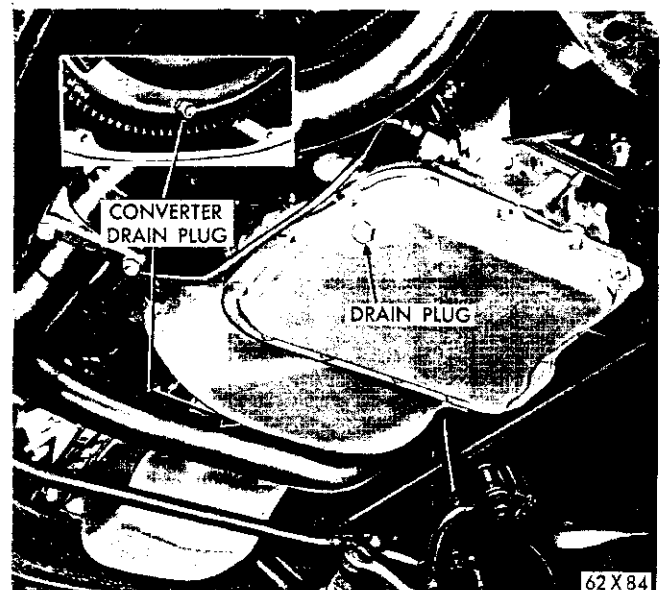

Fig. 23—Transmission and Converter Drain Plugs
(1) Remove the drain plug from the transmission oil pan and allow transmission to drain (Fig. 23).
(2) Remove the torque converter access plate and remove the converter drain plug and allow to drain (Fig. 23).
(3) Replace the torque converter drain plug. Tighten the plug to 14 foot-pounds torque.
(4) Remove the transmission oil pan. Clean the intake screen and pan.
(5) Adjust the reverse band. Refer to "Band Adjustments".
(6) Adjust the kickdown band. Refer to "Band Adjustments".
(7) Adjust the push button cable. Refer to "Gearshift Control Cable Adjustments".
(8) Reinstall the intake screen and oil pan. Be sure to use a new gasket.
(9) Install a new fluid filter. Run the engine for a few minutes and check filter and tube connections for leaks.
(10) Pour eight quarts of Automatic Transmission Fluid, Type "A" Suffix "A" into the transmission.
(11) Start the engine and allow to idle for at least